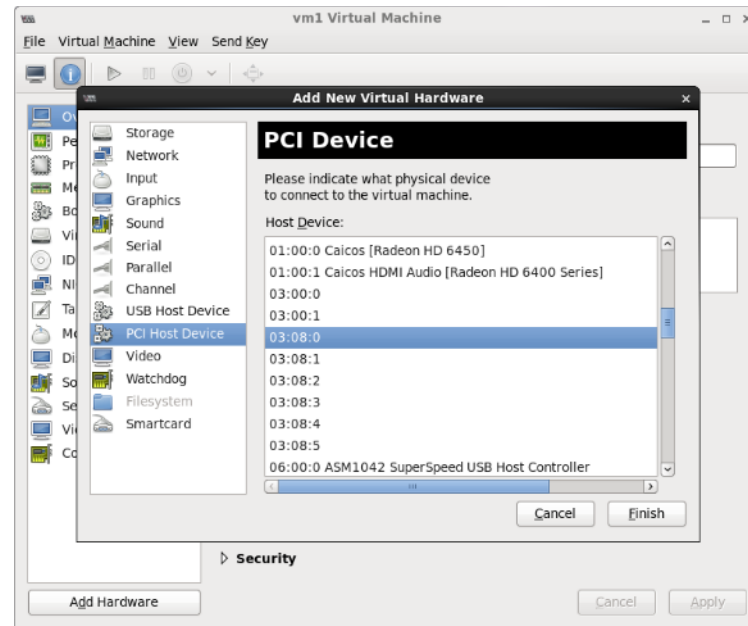

Figure 27: Select Virtual Function to Attach to Virtual Machine
25. Select **PCI Host Device** and add the appropriate Host Device (Virtual Function) as shown in Figure 27.